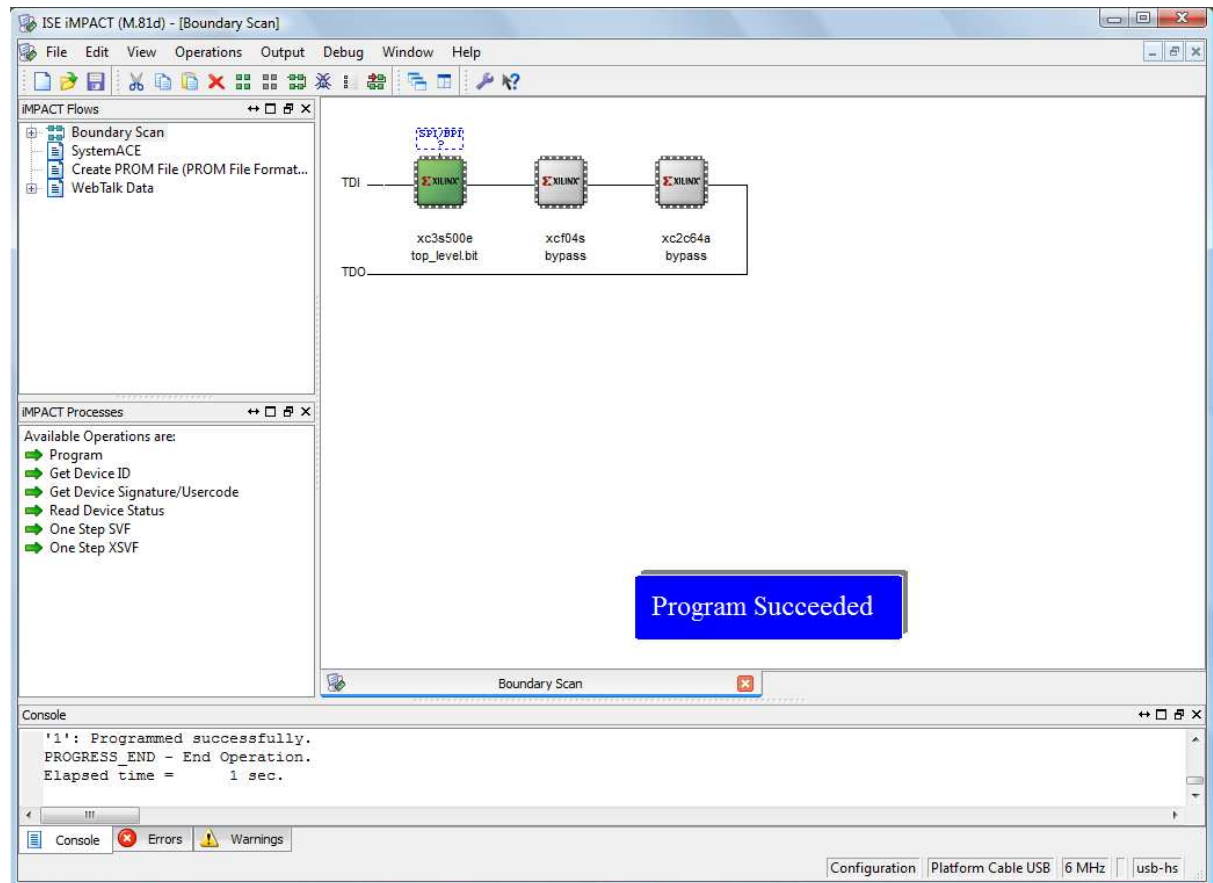

Figure 5.49: iMPACT window, after the program has been successfully downloaded to the Spartan-3E board.
14. The program should now be downloaded to the Spartan-3E board. After the download is complete, the message “Program Succeeded” will appear in a blue box (Figure 5.49).